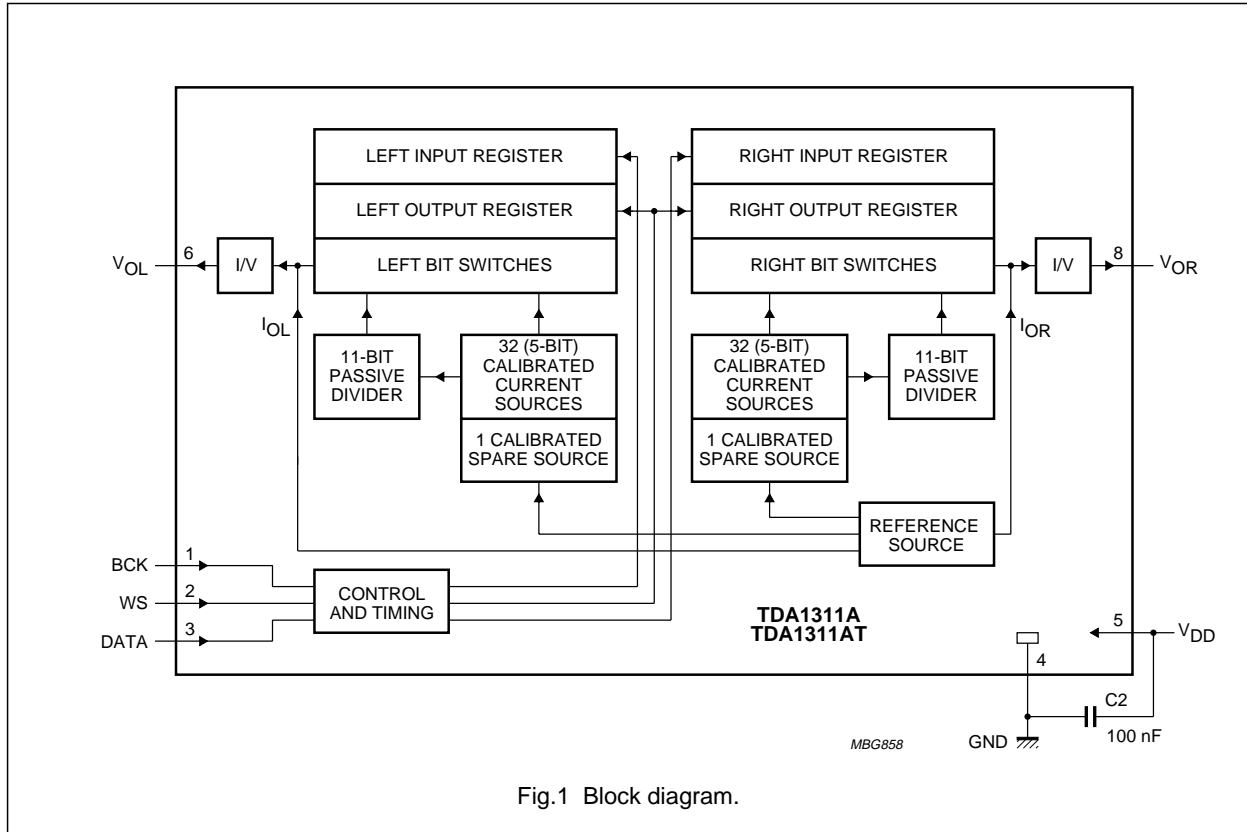

Fig.1 Block diagram.
The 32 current sources and the spare current source of the TDA1311A; AT are continuously calibrated (see Fig.1). The spare current source is included to allow continuous converter operation. The output of one calibrated source is connected to an 11-bit binary current divider consisting of 2048 transistors.
With a HIGH level on the word select input (WS), data is placed in the left input register and with a LOW level on the WS input, data is placed in the right input register (see Fig.1). The data in the input registers are simultaneously latched in the output registers which control the bit switches.
$V_{DD} = 5$ V; $T_{amb} = 25$ °C; measured in Fig.1; unless otherwise specified.